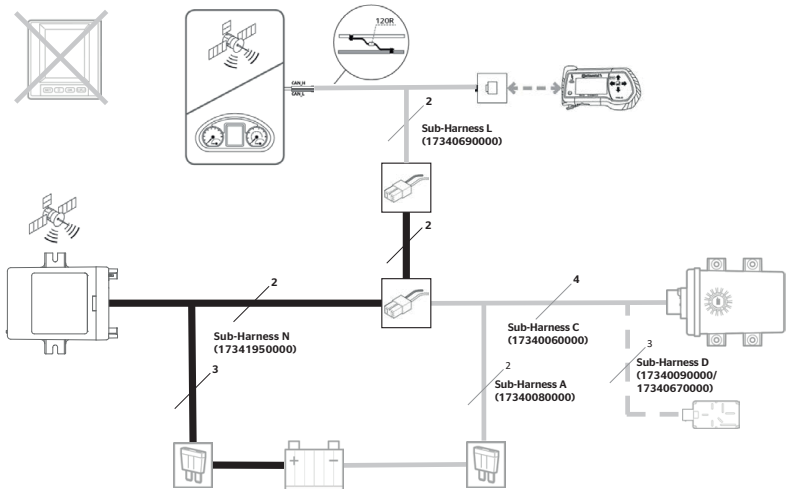

Fig. 2: Variant B
- ◆ Connect the wiring harnesses N and L as shown in “**Fig. 2: Variant B**”